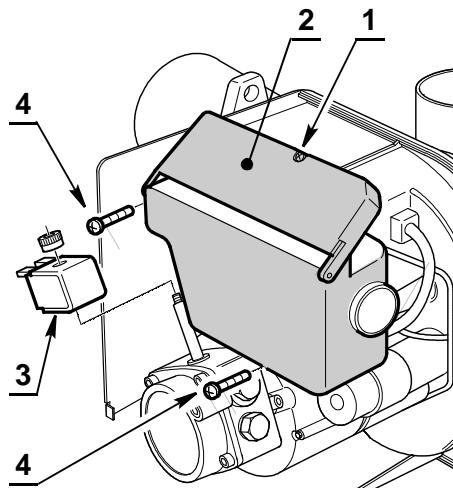

Fig. 15
- unscrew the screw 1)(Fig. 15) and open the protection 2).